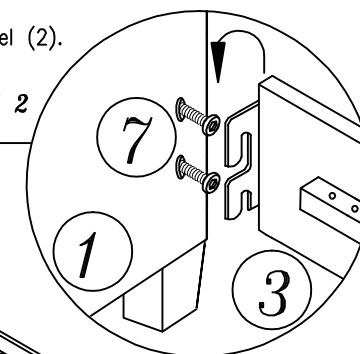

FIGURE 2
- Step 2** • Secure side rails (3) to headboard panel (1). Use Allen wrench (16) to loosen screw (7) inserted in the headboard (1) panel 3 or 4 turns ; then insert metal bracket of side rail (3) over screws (7). SEE FIGURE 2
- Tighten screw (7) securely with Allen wrench (16).
- Repeat same steps on other side of the headboard and footboard panel (2).